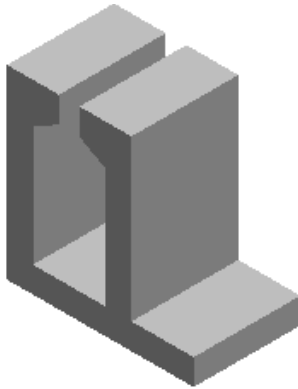
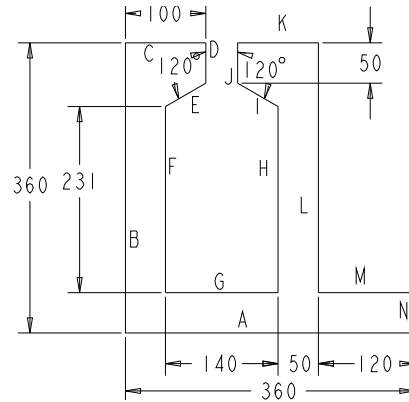

Figure 2-27 Model for Tutorial 2
Figure 2-28 Sketch of the model
In this tutorial, you will draw the sketch for the model shown in Figure 2-27. The sketch is shown in Figure 2-28. For your reference, all entities in the sketch are labeled alphabetically. (Expected time: 30 min)
The sketch in Figure 2-28 consists of only lines. For ease of understanding, all lines in the sketch are labeled alphabetically.
- Now, continue drawing the remaining lines that are shown in Figure 2-28. When the sketch